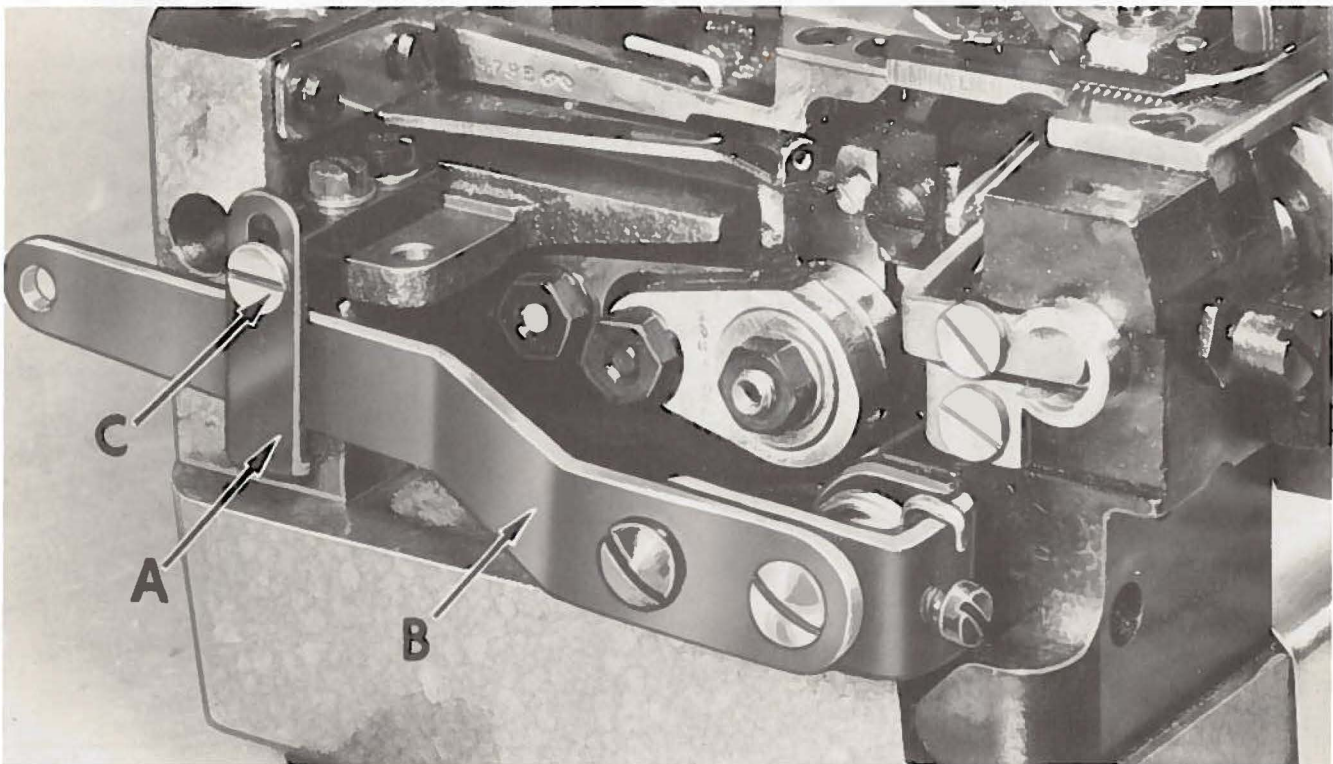

Fig. 18
While sewing on material, adjust the lifter lever stop (A, Fig. 18) so that when the knee press is engaged, the lifter lever (B) raises the throat plate to a height required to obtain the desired increase in the number of stitches per inch sewn. Screw (C) is used to secure the lifter lever stop.